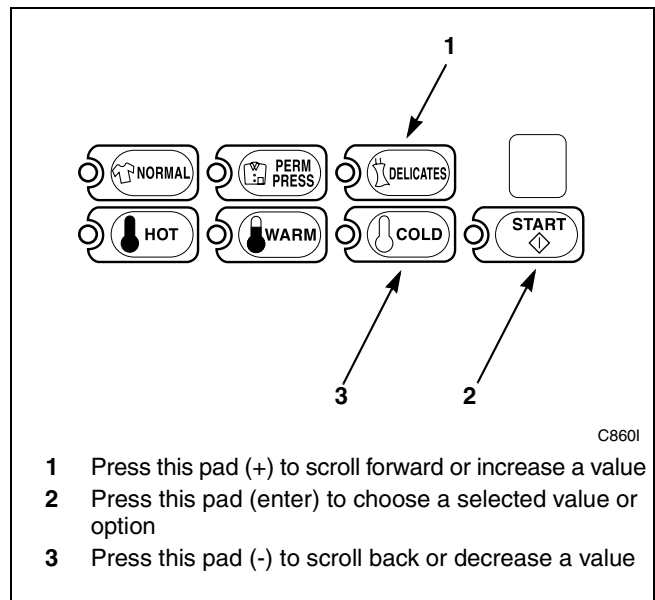

Figure 107
5. Press the DELICATES (+) or the COLD (-) keypad to increase or decrease the current number to the desired number selected from *Table 4*. Refer to *Figure 107*.